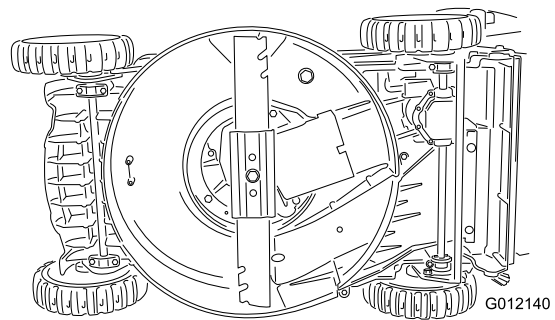

Figure 34
2. Tip the machine onto its side (Figure 34), with the dipstick down.